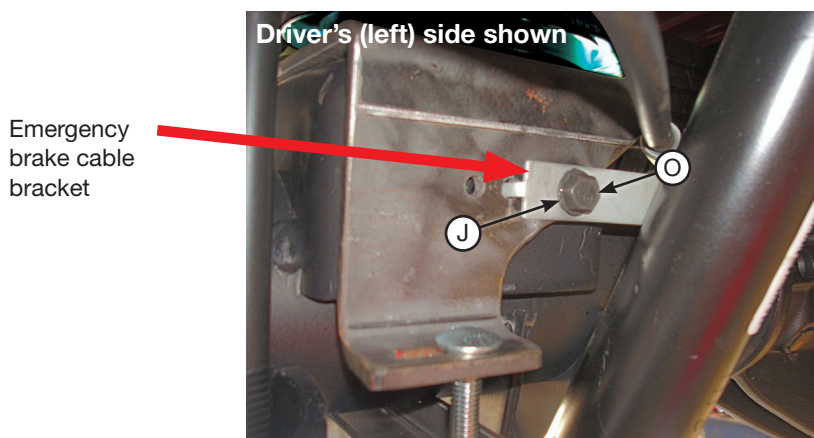

fig. 18
4. Attach the brake cable on the passenger's side, forward of the axle with the new M8-1.25 x 10 hex cap screw (O) and 3/8" flat washer (J) (Fig. 18). Tighten securely.
It may be necessary to slightly bend this bracket to clear the edge of the lower bracket (Fig. 18).